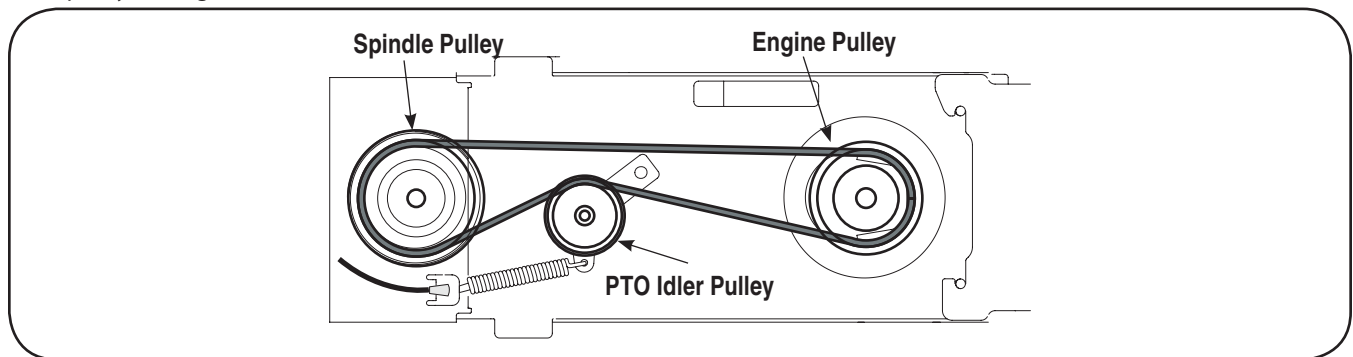

Figure 3-19
1. Attach and route the upper drive belt around the engine pulley and spindle pulley, routed to the **INSIDE** of the PTO idler pulley on the undercarriage. Make sure the belt is routed inside of the belt keeper pins found around the spindle pulley and engine pulley. See Fig. 3-19.